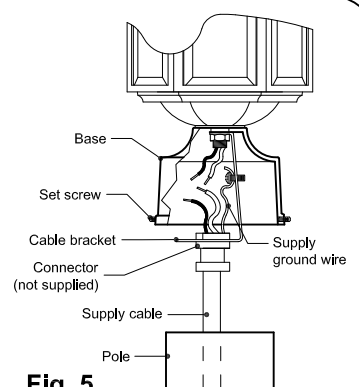

Fig. 5
- 1 - Mount cable bracket (provided with ground screw) inside luminaire base (Fig. 5).